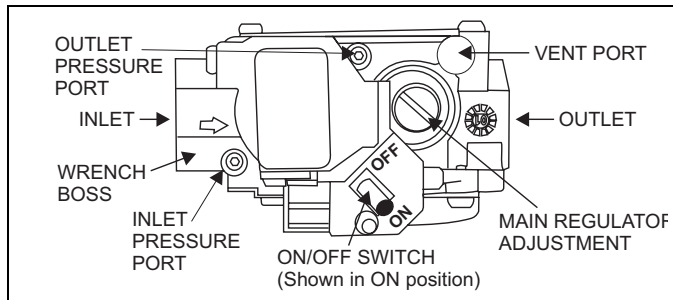

FIGURE 26: Gas Valve
Inlet and manifold gas pressure may be measured by connecting the "U" tube manometer to the gas valve with a piece of tubing. Follow the appropriate section in the instructions below. Refer to Figure 26 for a drawing of the locations of the pressure ports on the gas valve.
Follow the appropriate section in the instructions below. Refer to Figure 26 for a drawing of the locations of the pressure ports on the gas valve.
- Refer to Figure 26 for location of pressure regulator adjustment cap and adjustment screws on main gas valve.